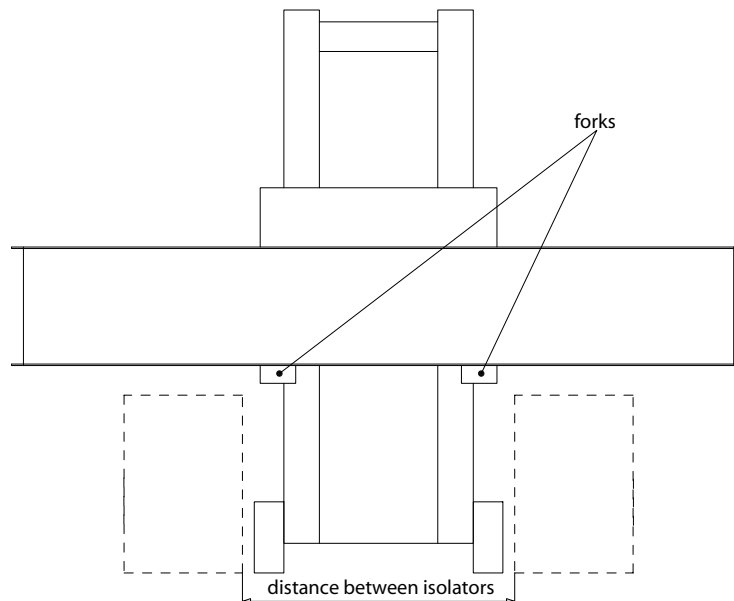

Fig. 3.3 Distance between forks
- Raise the table on a fork-lift truck, ensuring that the fork distance is set such that the forks can pass between the isolators when the table is lowered into position – See Fig. 3.3.